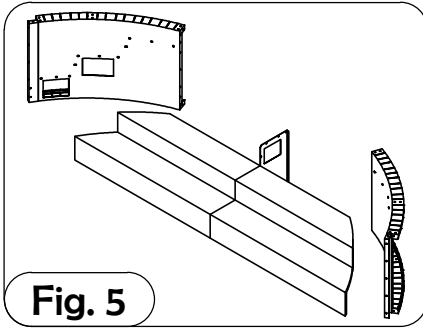

Fig. 5
5. Bolt left and right radius stair side panels with the attached fillers to bottom steps (Fig. 5).
6. Bolt left and right center step to radius side stair panels (Fig. 5)